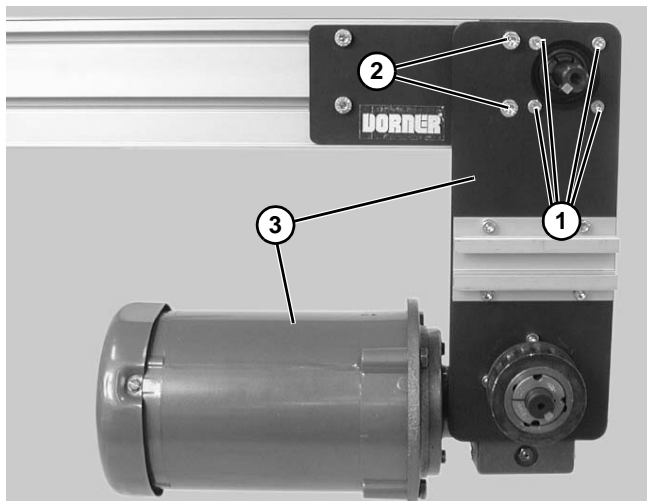

Figure 82
- e. Remove four (4) M5 mounting screws (**Figure 82, item 1**) and two (2) M8 mounting screws (**Figure 82, item 2**).
- f. Remove gearmotor and mounting plate assembly (**Figure 82, item 3**).